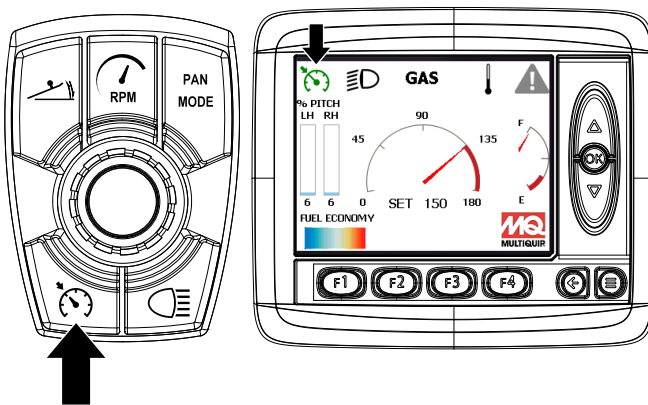

Figure 43. Cruise Control
3. Press the **cruise control button** (Figure 43). The cruise control icon on the digital display will turn green to indicate cruise control is engaged.